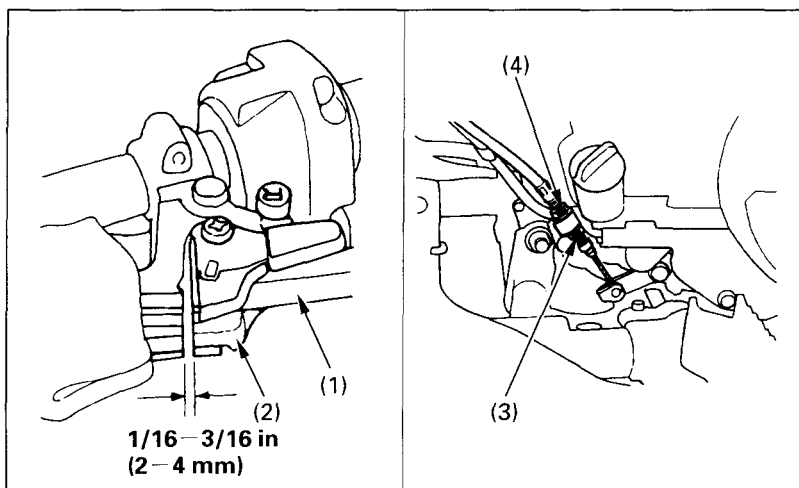

Fig. 4-18 (1) Rear brake lever
Measure the reverse assist lever (2) free play. Free play, measured at the lever (2) end near the cable (Fig. 4-18), should be approximately: